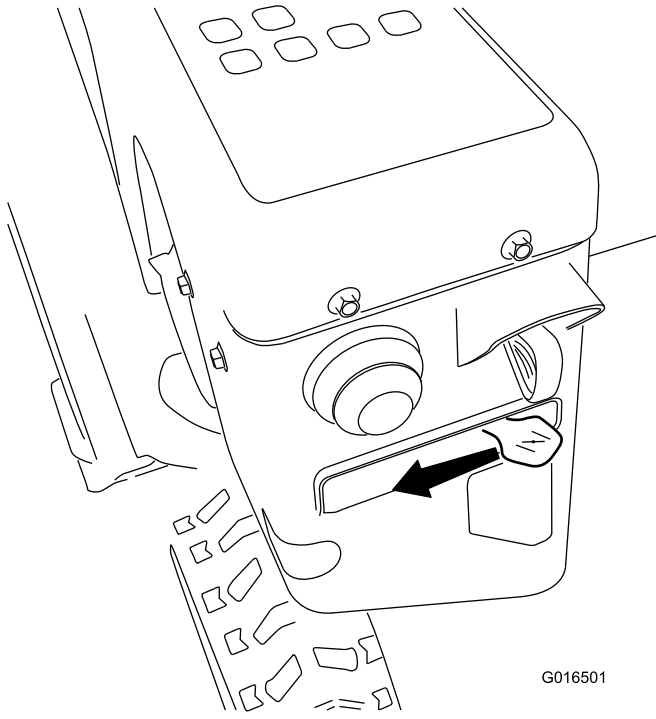

Figure 28
5. Move the choke to the Choke position (Figure 28).